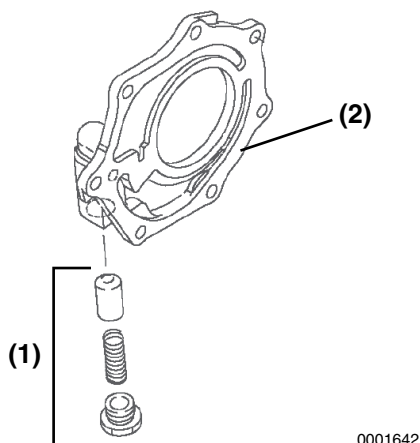

Figure 9-7
- Remove the oil pressure regulator valve **(Figure 9-7, (1))** from the oil pump cover **(Figure 9-7, (2))**.